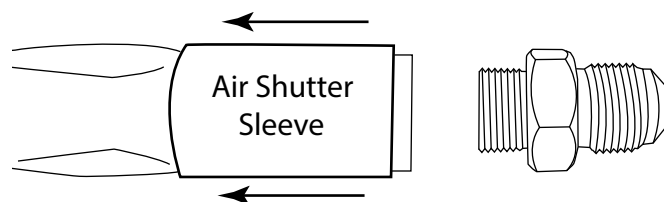

Fig. 14 Natural gas setting; air shutter sleeved installed.
Step 6: After the main burner orifice and brass fitting is removed then slide the air shutter sleeve off the burner tube and expose the hole for the LP gas (Figs. 14 & 15).